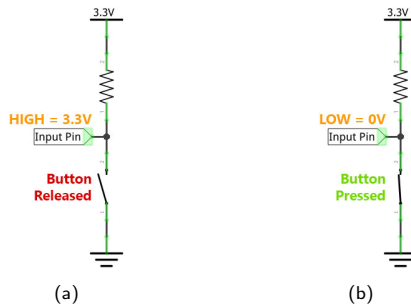

Figure 3.2. Active-low button circuit: (a) Button released, input pin receives a logical high; (b) Button pressed, input pin receives a logical low.
- **Active-low:** the active-low button circuit is shown in Figure 3.2. In this circuit, the VCC is connected to an input pin through a resistor, so the current can flow to the input pin. Therefore, it